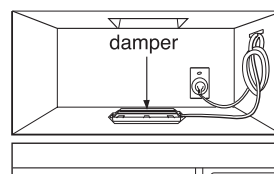

Figure 32
5. Roof venting installation: See Figure 32. Install ductwork through the vent opening in the upper cabinet. Complete the venting system through the roof according to the method needed. See "Prepare The Venting System" STEP 2. Use caulking gun to seal the exterior roof opening around the exhaust cap. See Figure 7 on page 7.